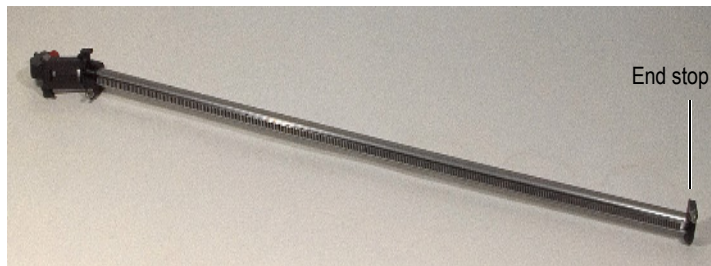

Figure 2-4 The rigid Y-axis end stop
9. Remove the Y-axis end stop from the rigid Y-axis (see Figure 2-4 on page 21).